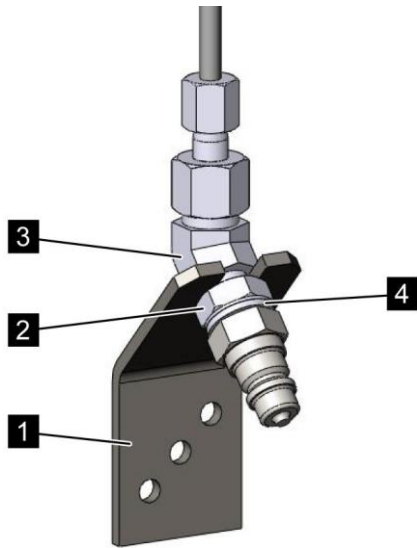

Fig. 113: Mounting the test connection
1. ➔ Fasten the fastening bracket (Fig. 113/1) on a wall or on the cylinder battery frame.
2. ➔ Hook in and align the angled threaded union (Fig. 113/3).
ⓘ If necessary turn the lock nut (Fig. 113/2) counterclockwise until the angled threaded union fits into the fastening bracket.
3. ➔ Hold the base element of the angled threaded union (Fig. 113/3) in position with a wrench and tighten the lock nut (Fig. 113/2) with a second wrench.
4. ➔ Ensure that the O-ring with support ring (Fig. 113/4) is clean and not tilted.